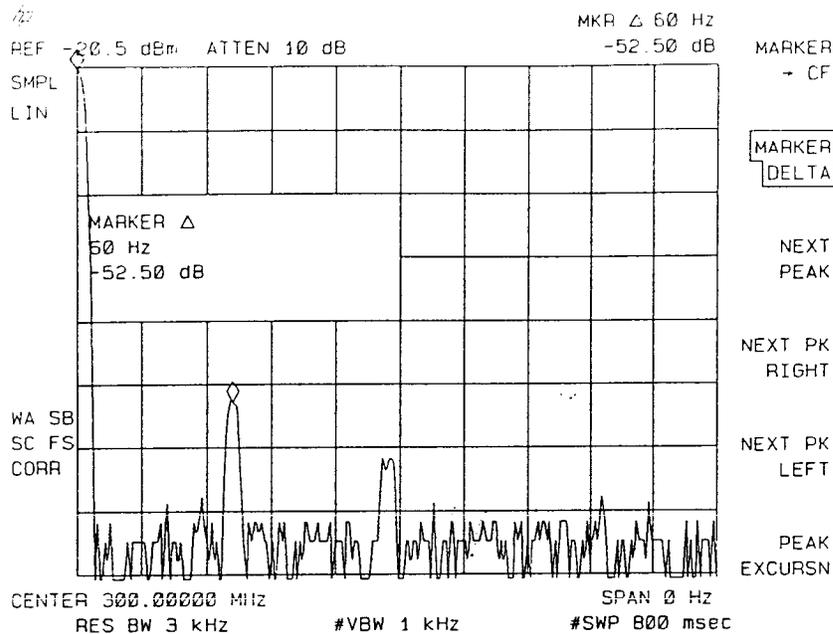

Figure 2-29. Using the FFT Function
- A marker is automatically placed on the carrier at the 0 Hz reference (at the left edge of the graticule). Press **MARKER DELTA** and turn the knob to the modulation to determine the frequency and amplitude difference from the carrier. See Figure 2-29.
The results of the FFT function are displayed on the analyzer screen. The carrier appears at the left edge of the graticule with the modulation sidebands, and any distortion appearing along the horizontal graticule. The left edge of the graticule represents 0 Hz relative to the carrier. The right edge represents the maximum FFT frequency calculated (250 Hz), which is 200 divided by the sweep time. (See Figure 2-29.) The amplitude relationships among the carrier, sidebands, and distortion components are the same as they would be if the components were displayed with swept-tuned operation in log mode, 10 dB per division.